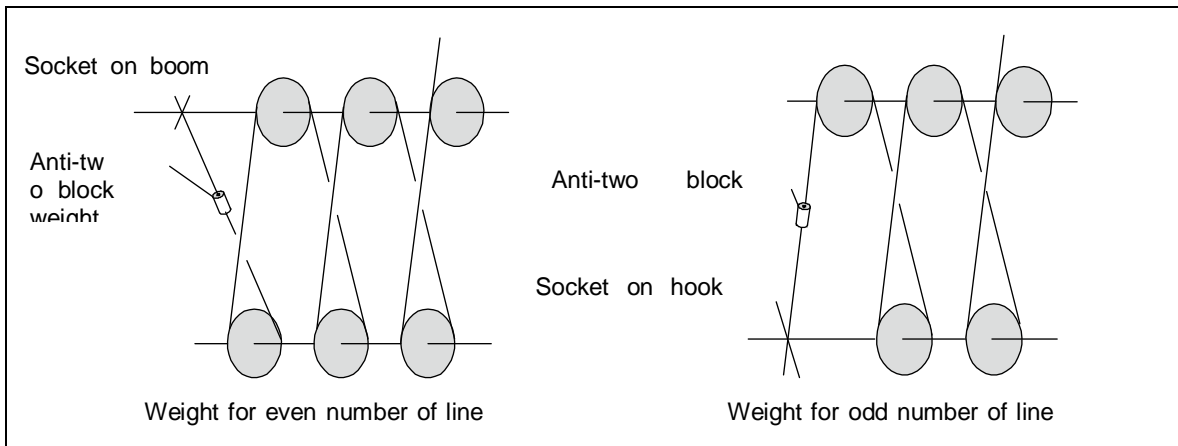

Figure 7-9 Even and Odd Line Parts
- (a) You must change the location of the anti-two block weight if you have a different number of wire-rope wraps. Refer to Figure 7-9.